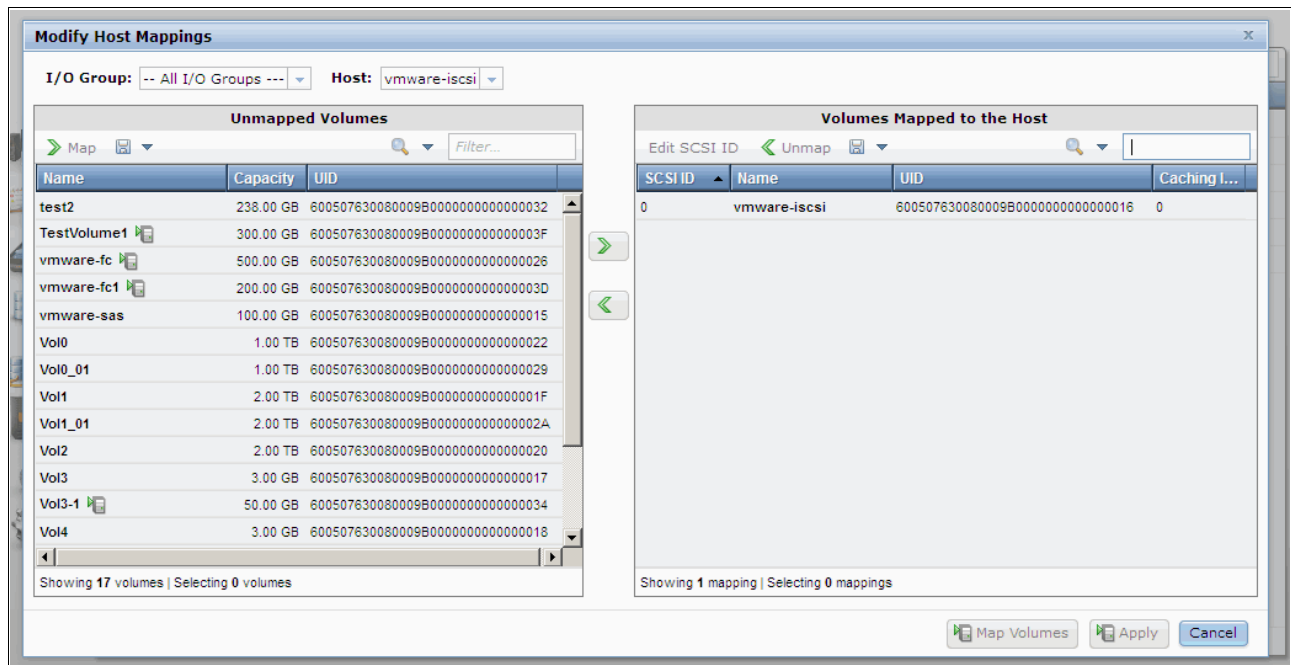

Figure 5-29 Modify host mappings window
3. The Modify Host Mappings window opens. By default, the window shows volumes for all I/O Groups. Selecting the correct I/O Group is important if there is more than one group. As described in 5.1.1, “Creating a generic volume” on page 164, when a volume is created, it is possible to define the caching I/O Group or the I/O Group that owns the volume and be used to access it. Therefore, your host must communicate with the same I/O Group for the mapping to be successful. Additionally, when hosts are defined, they should be masked correctly, as described in Chapter 4, “Host configuration” on page 153. Select the volume that you want to map from the Unmapped Volumes pane, as shown in Figure 5-29.